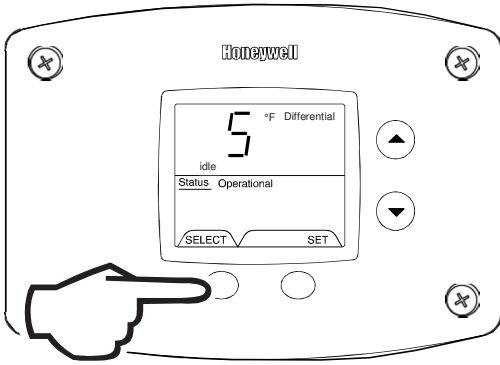

Figure 36
- 6. Differential (Display only – shows the differential of the thermostat) (Fig. 36).